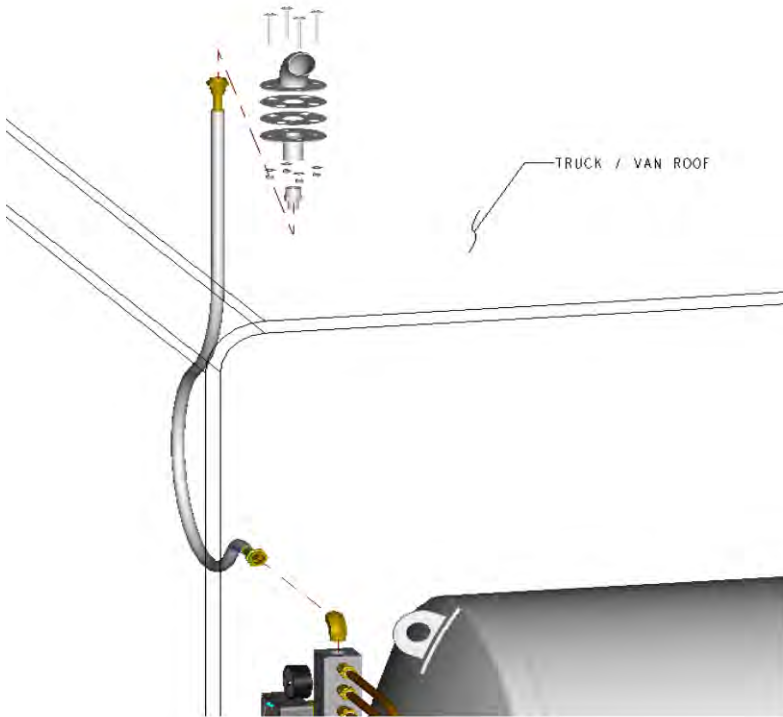

Figure 3.3
1. Select a location on the roof of the truck to place the vent exhaust assembly. The location should allow the flex hose to reach between the tank and the vent exhaust. See Figure 3.3.